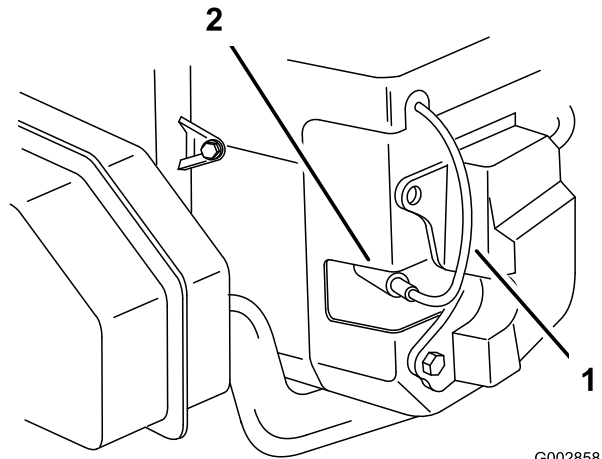

Figure 24
2. Pull the wire(s) off the spark plug(s) (Figure 24). Now clean around the spark plug(s) to prevent dirt from falling into the engine and potentially causing damage.
3. Push the wire(s) onto the spark plug(s) (Figure 24).